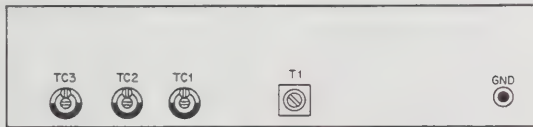
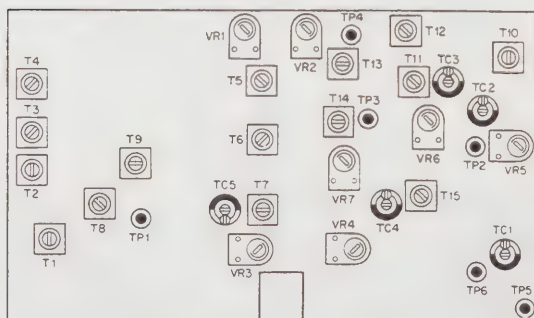
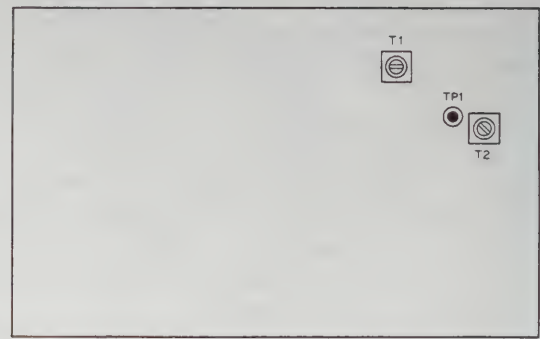

Fig. 21 CAR unit
Fig. 24 IF unit
Fig. 25 RF unit
- 1) Connect RF VTVM to TP5 in IF unit (X48-1150-00) and adjust oscillation coil T1 in CAR-1 unit (X50-1310-00) until the meter reads 50mV (refer to Fig. 21). (refer to Fig. 24, IF unit)
- 2) Adjust T1 to T7 in IF unit (X48-1150-00) and T2 in RF unit (X44-1150-00) until S meter reads maximum value (refer to Fig. 24 and Fig. 25).
- 2) Turn the RF GAIN knob fully counterclockwise and adjust VR3 and TC5 in IF unit (X48-1150-00) alternately until the output becomes minimum (refer to Fig. 24).
- 1) After receiving marker signal and turning ON NB switch, adjust T8 and T9 until the terminal voltage at TP1 on IF unit (X48-1150-00) becomes minimum (refer to Fig. 24).
- 1) After adjusting each section until sensitivity becomes minimum, adjust VR1 in IF unit (X48-1150-00) under no signal condition, thus making zero point adjustment of S meter (refer to Fig. 24).